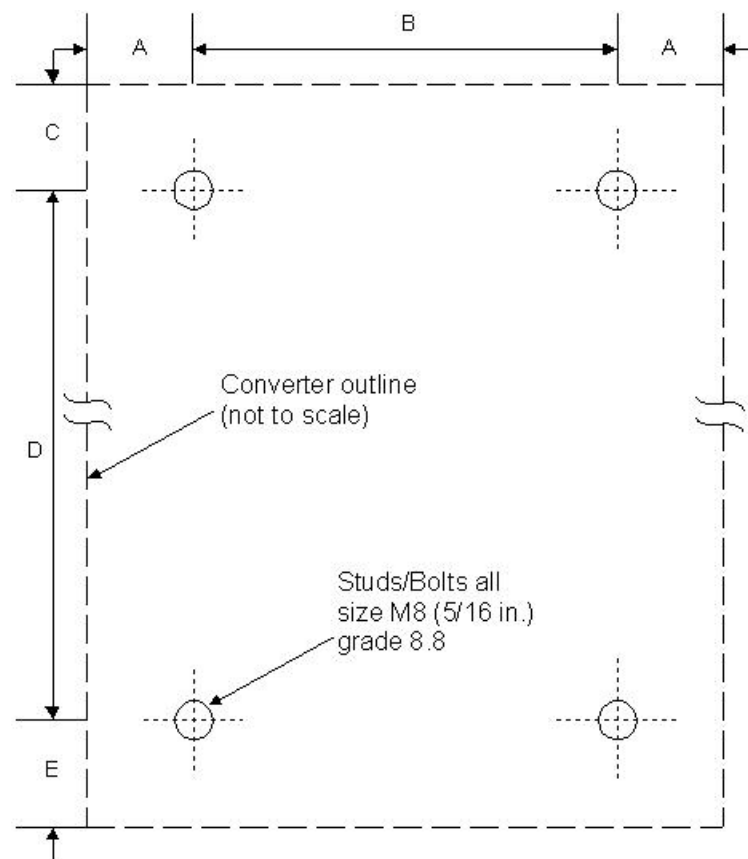

Figure 3-6. – Bolt Stud Locations for Mounting the Converter on a Panel
- The position of mounting studs/bolts for all converter frame sizes are shown in Figure 3-6 and Table 3-1. If "dirty air" ventilation is to be used with cabinet mounting, allow space for ducting cut-outs in the panel, above and below the converter.